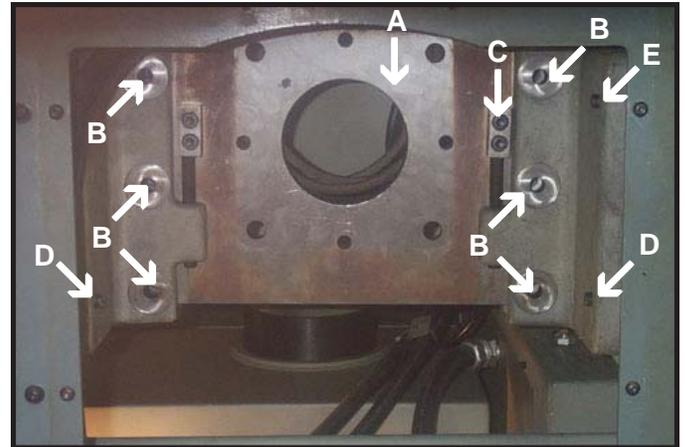
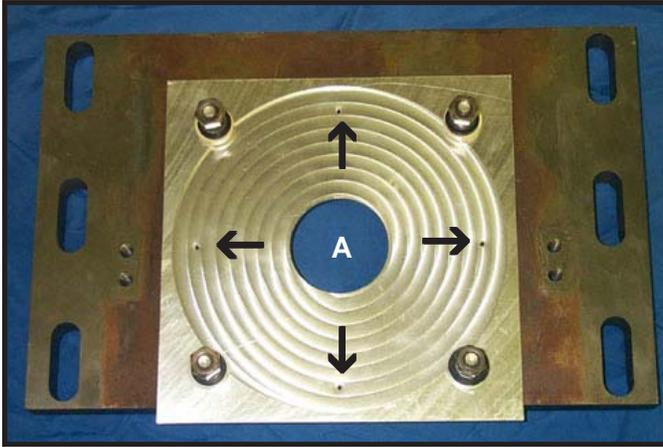

Figure 3.3.3
Figure 3.4.1
After D.C. spindle motor is removed, mounting plate (A) has to be removed to drill (4) 17/32 holes to mount new A.C. motor. Remove the (6) bolts (B) that hold the mounting plate to the mounting bracket. Do not remove the adjusting bolts (C). As shown in Figure 3.3.3, remove the lower 2 bolts at (D) level and the front bolt at (E) level on each side. Next loosen the 4th bolt on each of the mounting bracket at the back of (E) level. Do not remove these 2 bolts.
Mount aluminum template using the 3/8" mounting bolts and plastic bushings used to mount the old D.C. motor. Drill (4) 17/32" holes in the motor mounting plate from the pre-punched holes in the template shown in Figure 3.4.1-A. To reinstall motor mounting plate, reverse the procedures for removing motor plate. After motor mounting plate is back into position (Figure 3.3.3), reinstall (6) bolts that were removed in Figure 3.3.3. Tighten all (6) bolts at D and E level on Figure 3.3.3. Reinstall template using the 3/8" mounting bolts and plastic bushing as done in Figure 3.4.1. The template will help align the new A.C. motor.